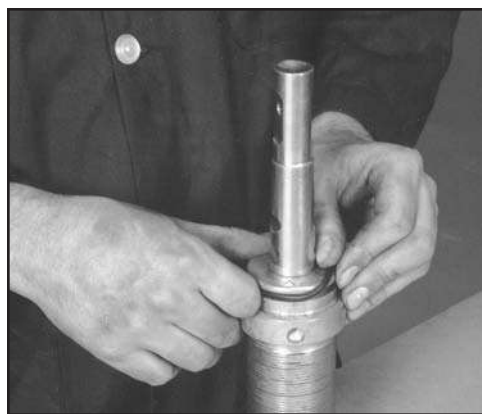

FIG. 28: INSERT O-RINGS
9. Install the o-ring(s) into the groove near the front of the casing tip (see Fig. 28).